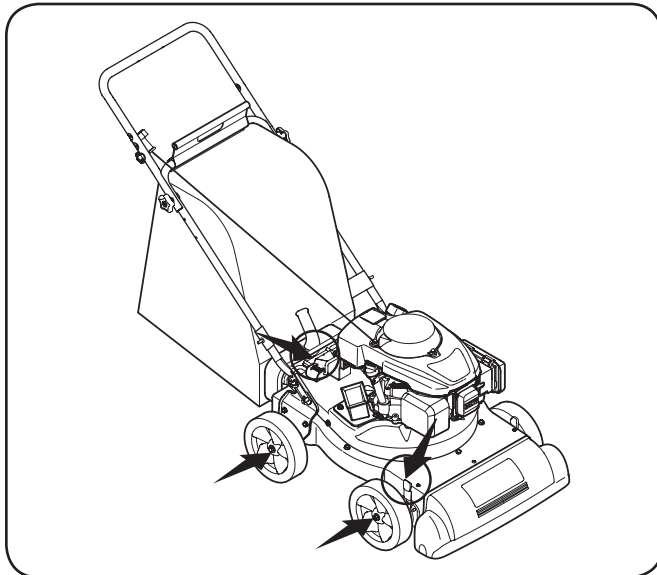

Figure 6-1
2. Lubricate the pivot points of the nozzle height adjustment levers once a season with light oil. See Figure 6-1.